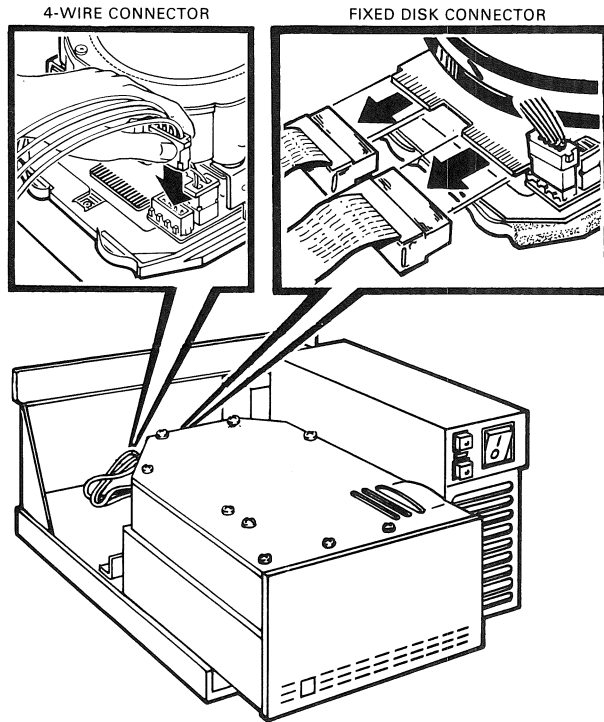

Figure 4-4 Remove the Power Cord and Drive Cables
5. Unplug the 4-wire power cord from the back of the fixed disk drive (see Figure 4-4).
6. Pull the fixed disk drive cable straight out of the back of the fixed disk drive as shown in Figure 4-4. Do not remove this cable at an angle to the disk drive.